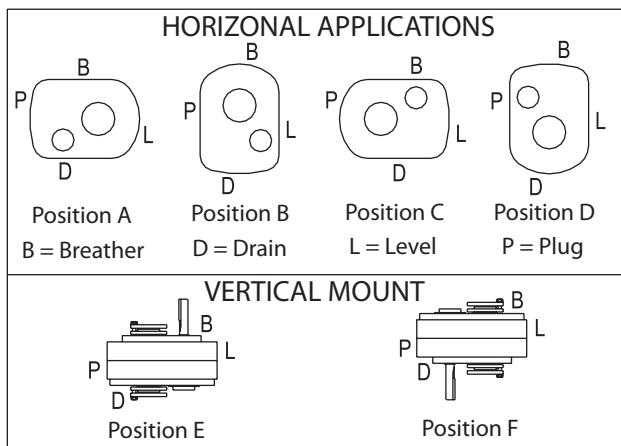

Figure 1 - Mounting Positions
2. Determine the running positions of the reducer. (See Fig. 1) Note that the reducer is supplied with either 6 plugs; 4 around the sides for horizontal installations and 1 on each face for vertical installations. These plugs must be arranged relative to the running positions as follows:
The running position of the reducer in a horizontal application is not limited to the four positions shown in Figure 1. However, if running position is over 20° either way from sketches, the oil level, plug cannot be safely used to check the oil level, unless during the checking the torque arm is disconnected and the reducer is swung to within 20° in positions "B" and "D" or 5° in positions "A" and "C" of the possible positions shown in Figure 1. Because of the many possible positions of the reducer, it may be necessary or desirable to make special adaptations using the lubrication fitting holes furnished along with other standard pipe fittings, stand pipes and oil level gages as required.
① Refer to Figure 1 for mounting positions
② U.S. Measure: 1 quart = 32 fluid ounces = .94646 liters.
NOTE: If reducer position is to vary from those shown in Figure 1 either more or less oil may be required. Contact Dodge Product Support.